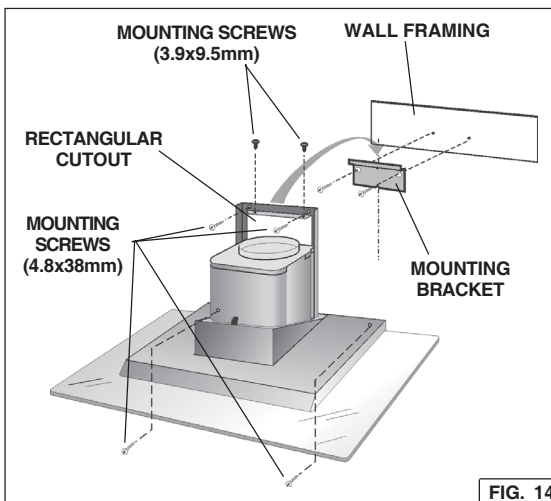

FIG. 14
2. Align the rectangular opening on the back of the hood with the wall-mounting bracket. Gently lower the hood until it securely engages the bracket. Fig. 14.
3. Level the hood with (2) 3.9x9.5mm mounting screws and secure with (4) 4.8x38mm mounting screws. Use drywall anchors provided if wall studs or framing are not available. Fig. 14.